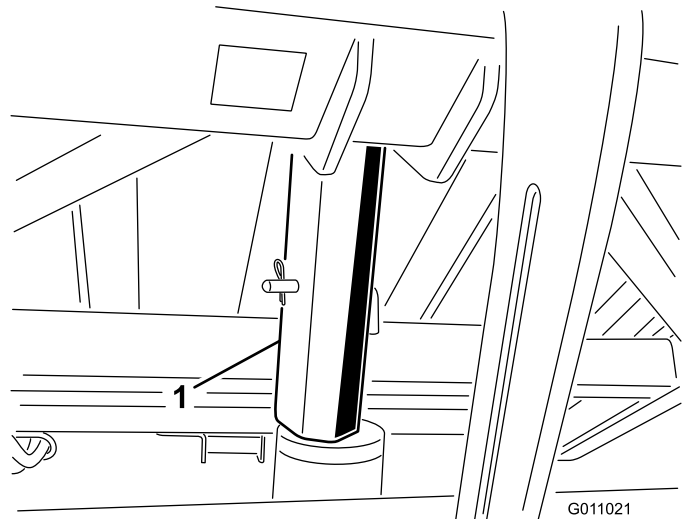

Figure 27
3. Insert the hopper-safety support onto the cylinder rod, making sure the support end rests against the cylinder barrel and the cylinder-rod end (Figure 27).